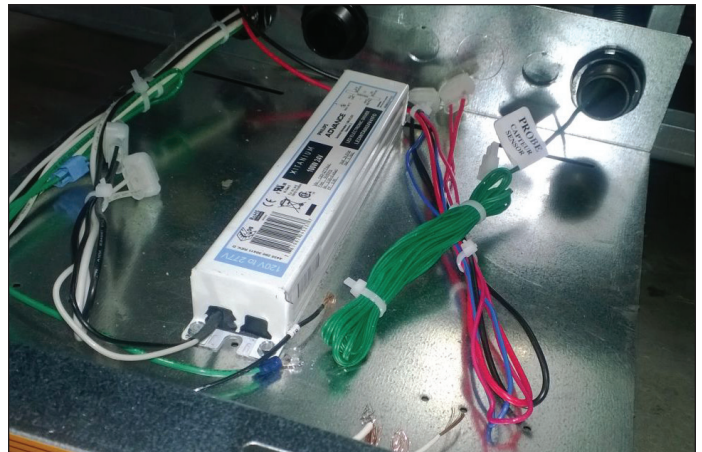

Fig. 14 Power supply in the slide-out tray beneath the case.
6. Pull out the slide-out electrical tray that is visible in the raceway. Ballasts/power supplies will now be visible (Fig. 14).